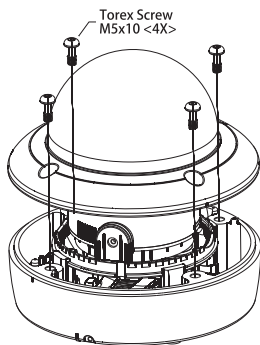

Figure 1
1. Loosen the for forx screws located midway up the front of the housing leaving the screw intact in the front portion. **(Fig. 1)**